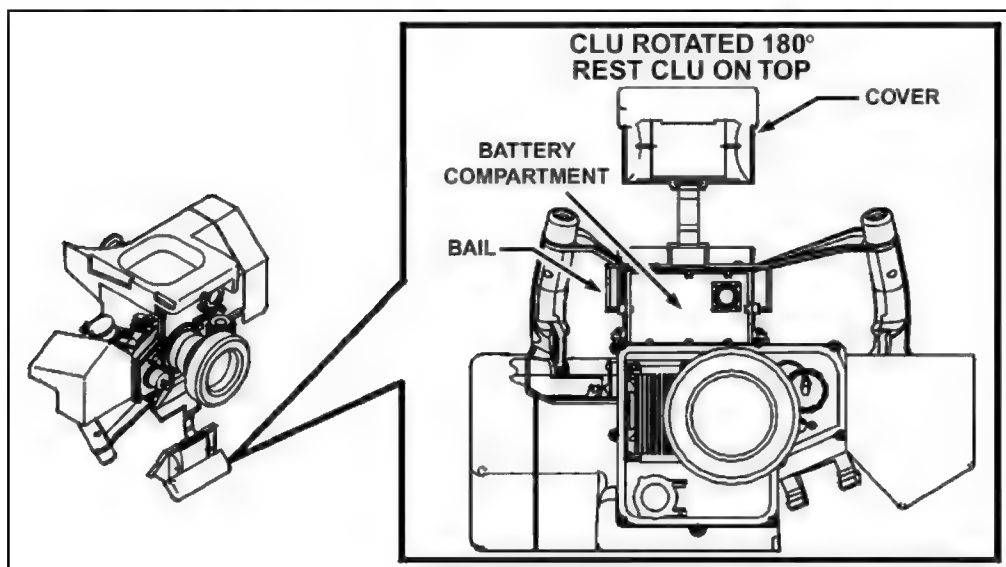

Figure 1-9. Battery compartment.
d. **Battery Compartment.** Located on the bottom of the main housing, the battery compartment (Figure 1-9) houses the nonrechargeable BA-5590/U or the rechargeable BB390A battery (*for training use only*). The same battery is used in the single-channel